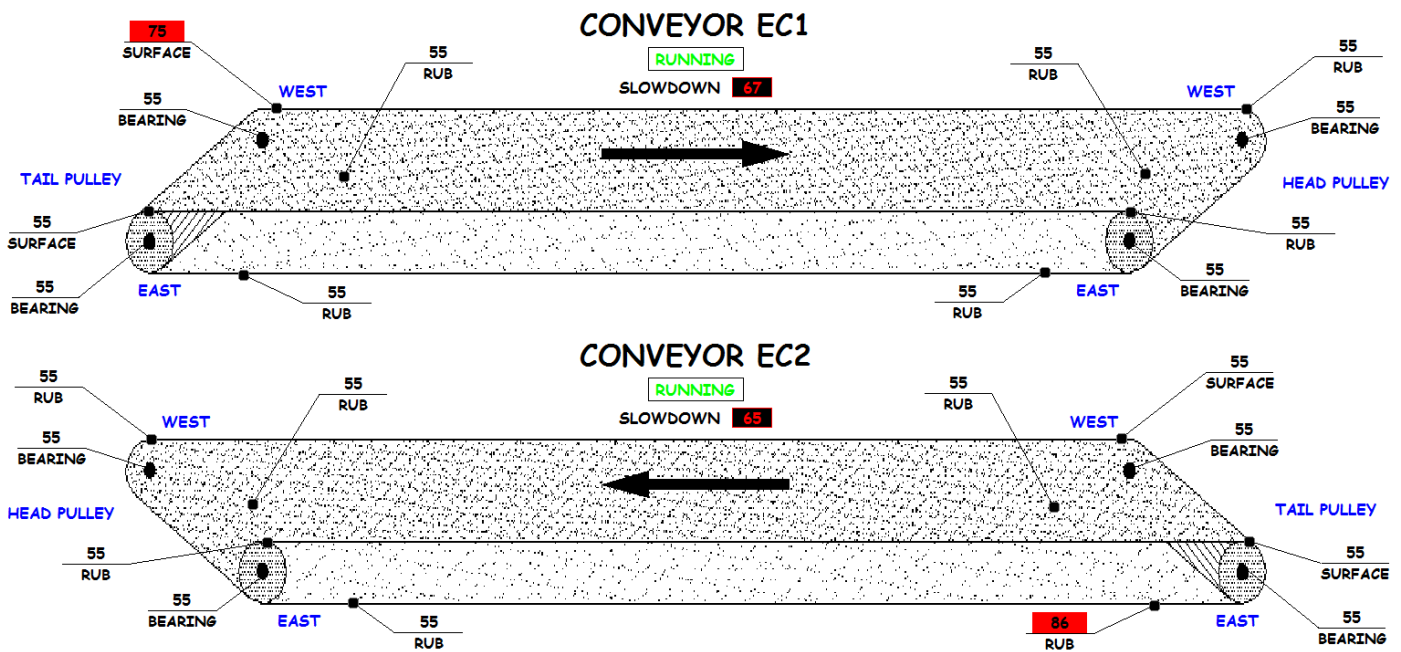

Figure 6 - Showing Hazard Monitoring Screens with Rate of Rise Alarm Setpoint reached.
- If any point reaches the Rate of Rise Alarm Setpoint (rise of 5° F in 10 seconds), that point will flash Red (Figure 6).